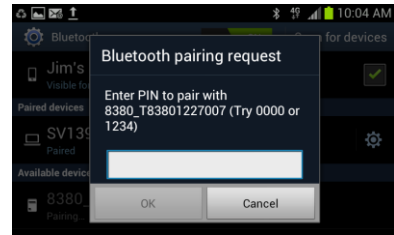

Figure 3. Bluetooth Pairing Request
2. Enter Model 8380 Pin Code for Bluetooth Pairing Request (Figure 3).
4. The device will then ask for **“Bluetooth pairing request.”** See Figure 3.